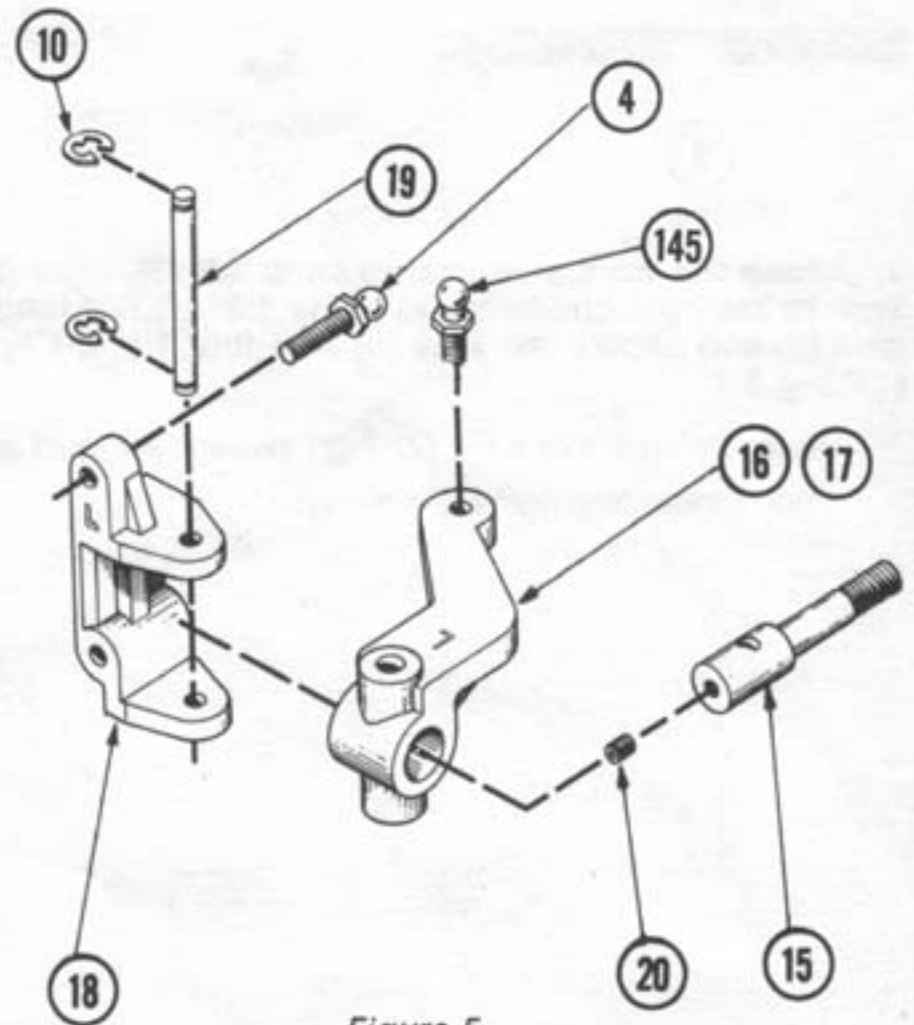

Figure 5
7. Slide the front axle (15) into the spindle (16) left, (17) right so that the holes are aligned. This will now be called a spindle assembly. Fig. 5
*Note: Spindle arms are marked for left (L)(16) and right (R)(17).
8. Place left spindle assembly into left spindle carrier (18) so the letter on the spindle (16) faces up and insert a 1/8" x .960 hinge pin (19) through the spindle carrier (18) and spindle assembly and secure with two 1/8" E-Clips (10). Repeat for right side. Fig. 5.
9. Center 1/8" x .960 pin (19) in spindle carrier and screw 5-40 set screw (20), into rear of axle (15) and up against 1/8" x .960 pin (19) until snug. Fig. 5
10. Thread one 3/8" ball stud (4) into the top hole of spindle carrier (18) from the rear and one 3/16" ball stud (145) into spindle arm (16), (17) from the top. This is now called a spindle carrier assembly. Make a left and a right. Fig. 5